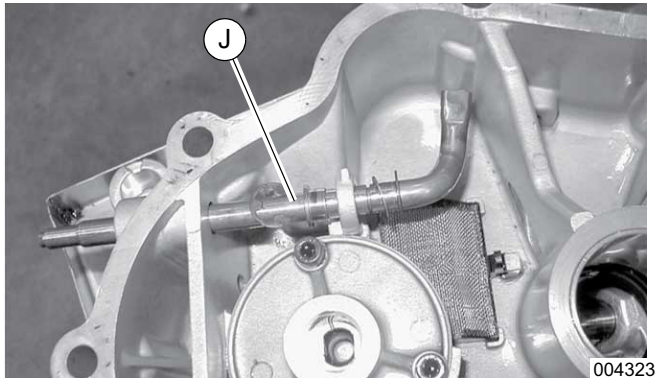

Figure 6-3. Governor Arm Assembly
See Figure 6-3. If governor arm (J) does not move freely, or if arm feels loose in bushings, it may need replacing. Change governor arm, governor gear assembly (gear and flyweights), spool, and bushings as needed if wear is noticed. Lubricate all moving parts when assembling.